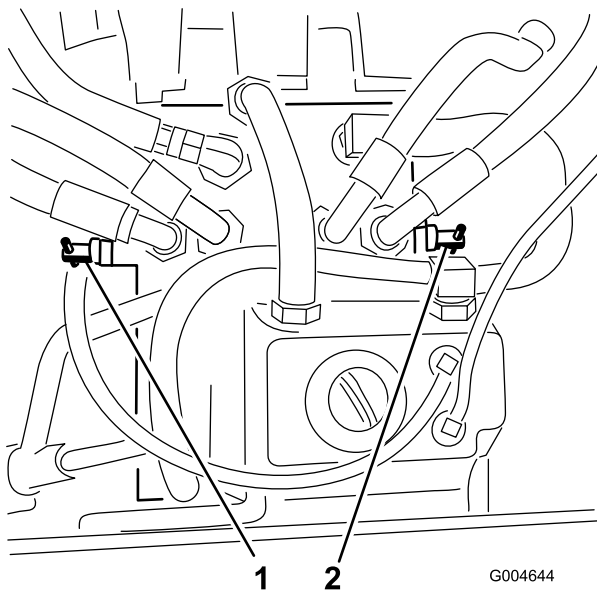

Figure 36
3. Rotate each by-pass valve counterclockwise 1 turn (Figure 36).
Rotate each by-pass valve clockwise 1 turn and hand tighten them (torque of approximately 71 in-lb (8 N·m)) (Figure 36).